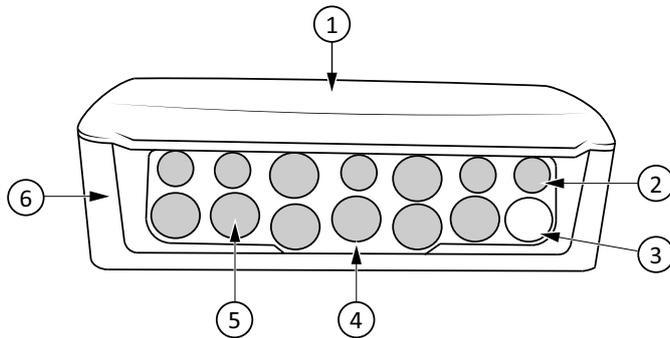

Figure 4-2 Cabinet cable gland templates
1. Pierce a hole that is smaller than the cable diameter through the soft part of the cable gland (see Figure 4-2) with a circular object, such as a Phillips head screwdriver or an awl.
1. Mount the damper unit on a stable, vibration-free surface. It can be mounted horizontally with the lid up (No 1 in *Figure 4-2*) or vertically with the cable front (No 2 in *Figure 4-2*) of the unit pointing down.